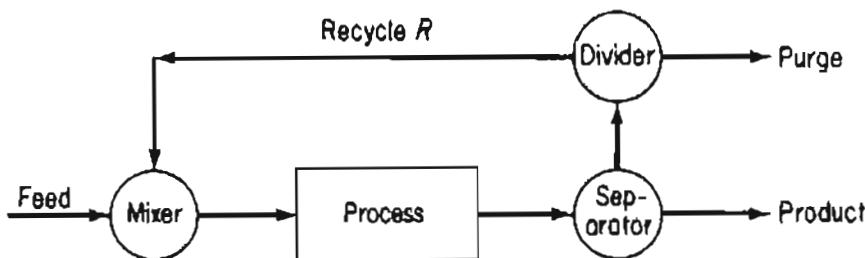

Figure 12.11 A process with a recycle stream with purge.
- b. A **purge** stream—a stream bled off from the process to remove an accumulation of inert or unwanted material that might otherwise build up in the recycle stream (Figure 12.11).